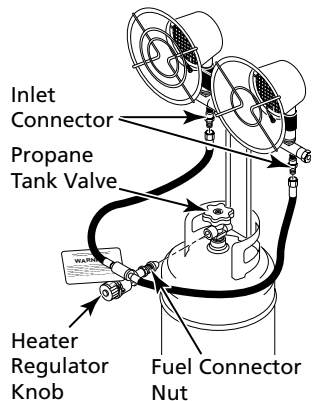

Figure 4 - Connecting Heater to Propane Tank
4. Wrench tighten the fuel connector nut into the propane tank valve with both gas hose fittings in a horizontal position (see Figure 4). Turn fuel connector nut counterclockwise to tighten. Threads are left-handed.
5. Connect both hoses to inlet connector (see Figure 4). Tighten firmly using wrench. **Make sure both hoses are connected before opening tank valve.**